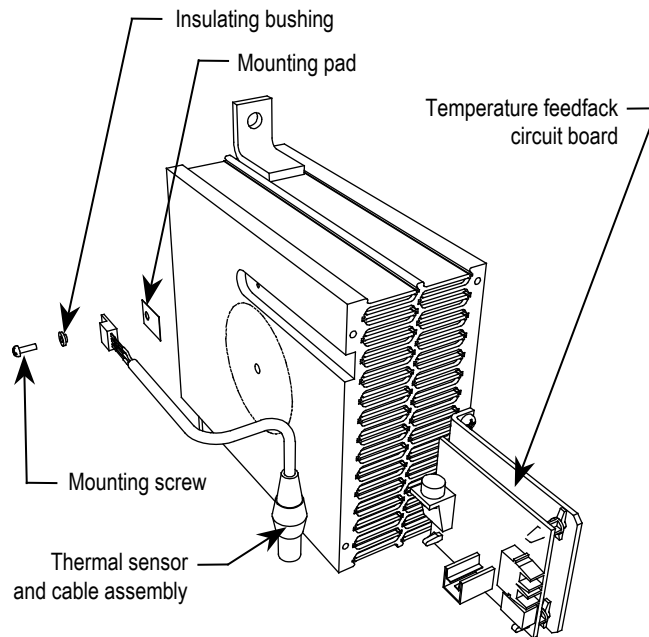

Figure 6.20 – Replacing the Heat Sensor
11. Note there is a small voltage difference between the thermal sensor and its heatsink. For proper function, it is essential to mount the small insulating pad between the thermal sensor and the heatsink and the insulating bushing between the thermal sensor mounting screw and the thermal sensor (see Figure 6.20).